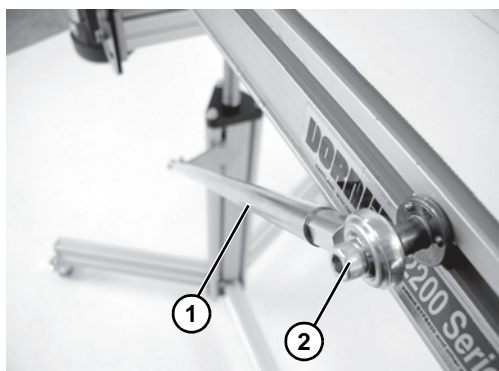

Figure 25
2. If conveyor is equipped with diagonal bracing (Figure 25, item 1), socket screw (Figure 25, item 2) must be loosened to adjust conveyor angle.